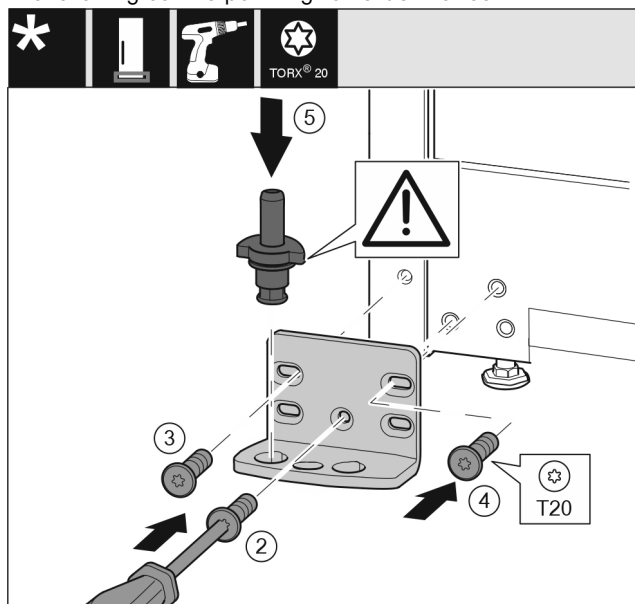

Fig. 18
- ▶ Place the swap bearing block on the other side and use a screwdriver to screw it on. Start with the screw Fig. 18 (2) at the bottom in the middle.
- ▶ Tighten screw Fig. 18 (3) and screw Fig. 18 (4).
- ▶ Insert the bearing bolt Fig. 18 (5) completely. Ensure that the latching cam is pointing towards the rear.